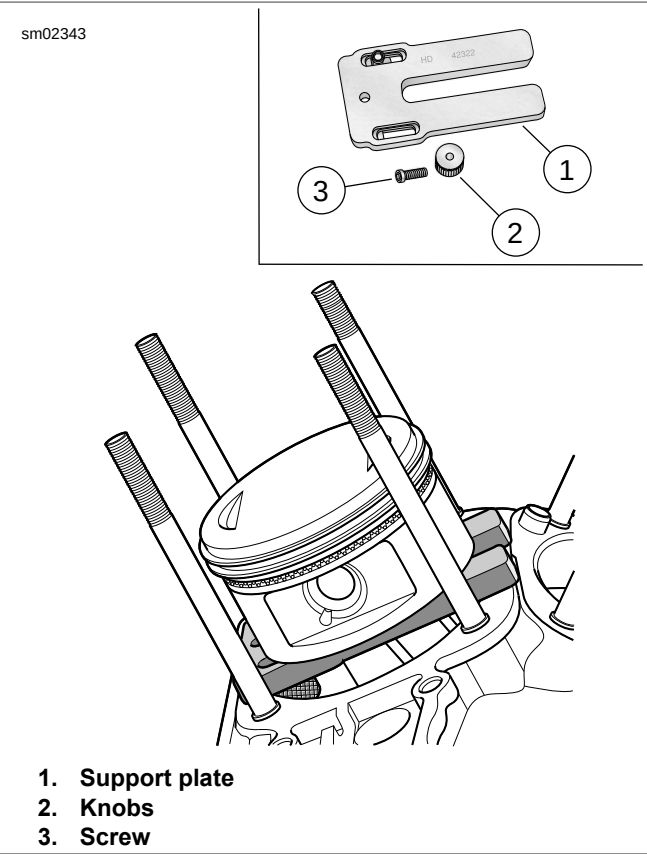
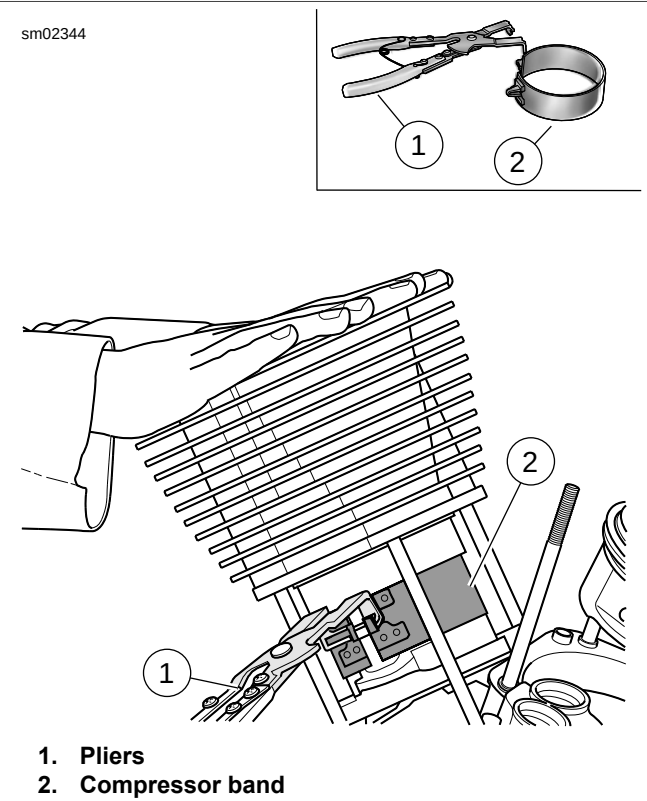
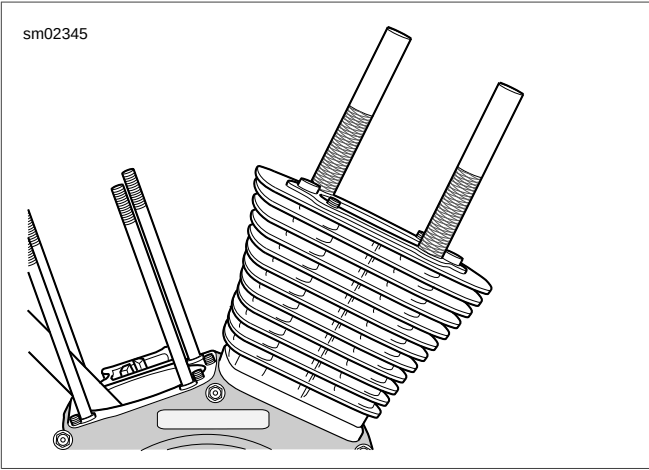

Figure 3-75. Piston Support Plate
Figure 3-76. Piston Ring Compressor
Figure 3-77. Install Threaded Cylinders to Studs
6. See Figure 3-75. Install the PISTON SUPPORT PLATE (Part No. HD-42322).
- a. Slide both adjustable knobs (2) on support plate (1) down away from forked end. Tighten knobs when contact is made with flats at end of slots.
7. See Figure 3-76. Install cylinder using PISTON RING COMPRESSOR (Part No. HD-96333-51F).
- a. Fit tabs on pliers (1) into slots of ring compressor band (2). The arrow stamped on the band indicates the side that faces up, so disregard the word "bottom".
10. See Figure 3-77. Install THREADED CYLINDERS (Part No. HD-95952-1) from CONNECTING ROD CLAMPING TOOL (Part No. HD-95952-33C) onto cylinder studs with the knurled side down.